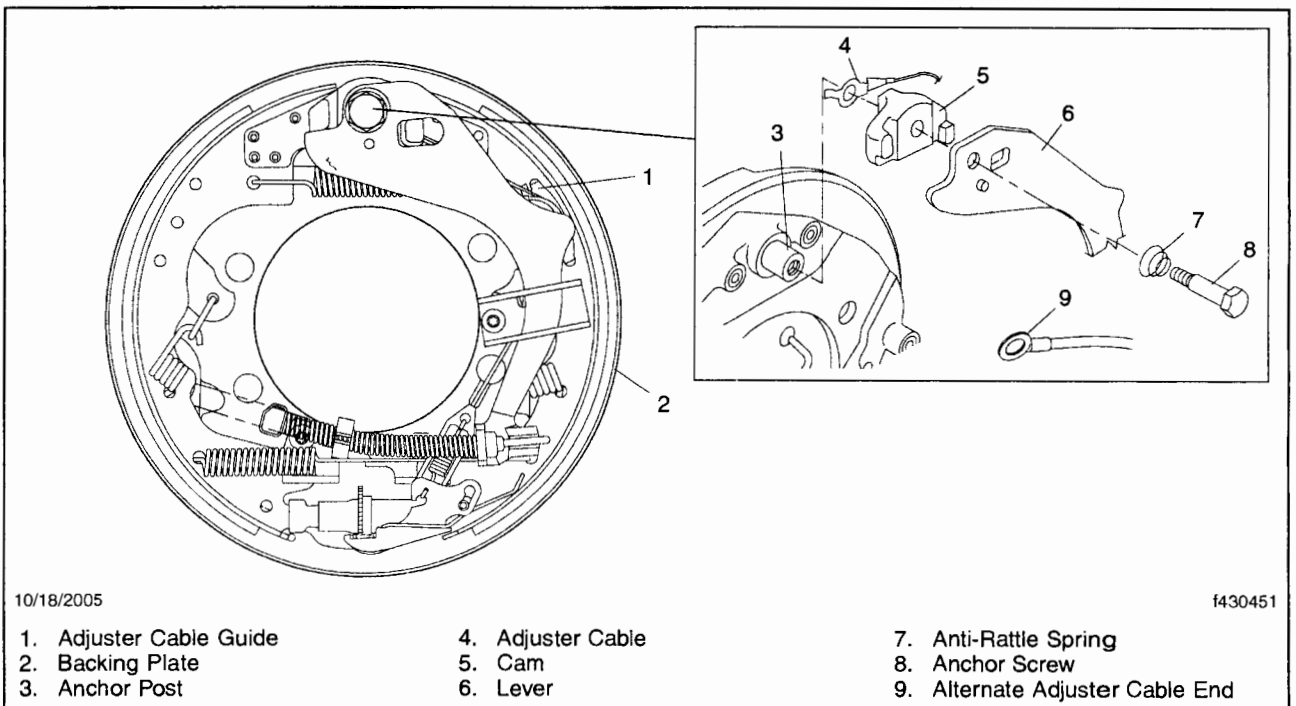

Fig. 6, Adjuster Components Removal/Installation
10. Remove the anchor screw and anti-rattle spring. See **Fig. 6**. Keep the anti-rattle spring for re-assembly with the new anchor screw.
13. Install the adjuster cable, cam, lever, anti-rattle spring (small coil end toward screw head), and the new anchor screw. See **Fig. 6**.